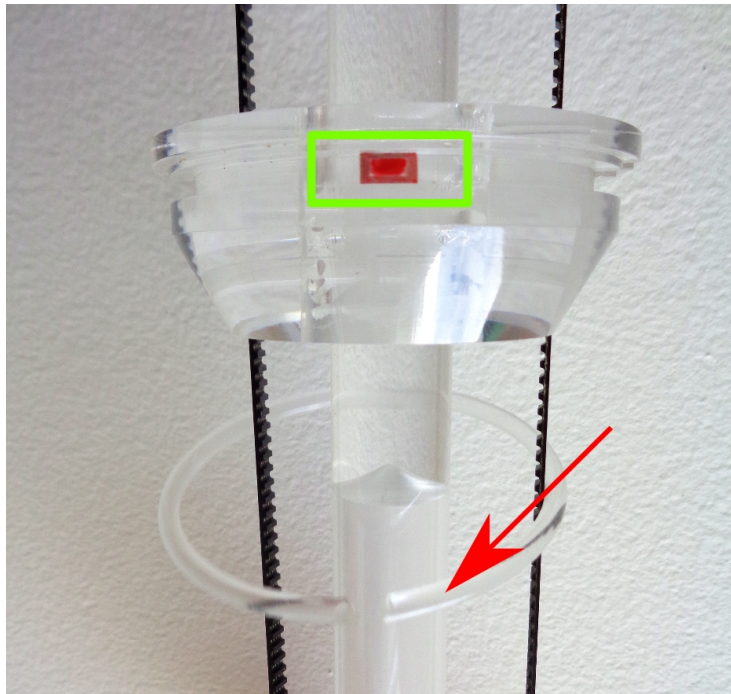

Figure 4: Ring with rubber washer
- Then gently release the ring, as you can see in Figure 4. Pay attention to the position and trapezoid shape of rubber washer and be careful not to lose it. Remove the belt from rotator.